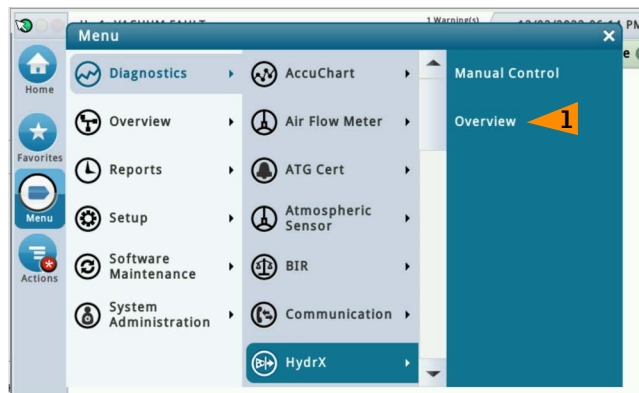
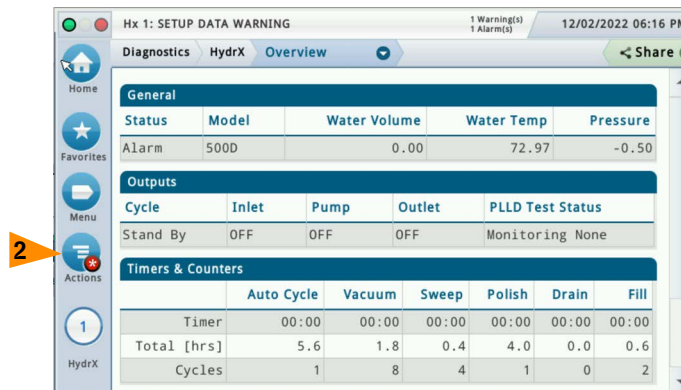

Figure 20. Accessing HydrX Diagnostic Overview Screen
Figure 21. HydrX Diagnostic Overview Screen
3. Touch **Menu>Diagnostics>HydrX>Overview** (Item 1, Figure 20) to open the HydrX Diagnostic Overview screen (see Figure 21).
4. Touch the **Actions** button (Item 2, Figure 21) to open the HydrX diagnostic service buttons menu. Note: Gray Action buttons are disabled.